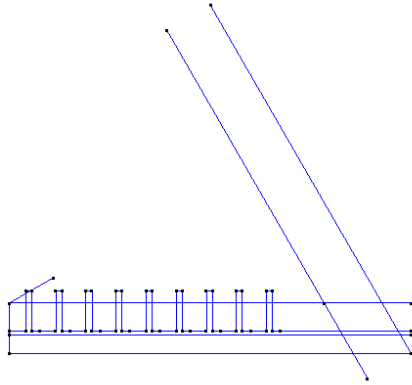

Figure 10. Creating the lines of the profile
- 7 . Again, choose the **Line** option and enter points (0, 9) and (200, 9). Press **ESC** twice to conclude the process of creating lines (Figure 10).